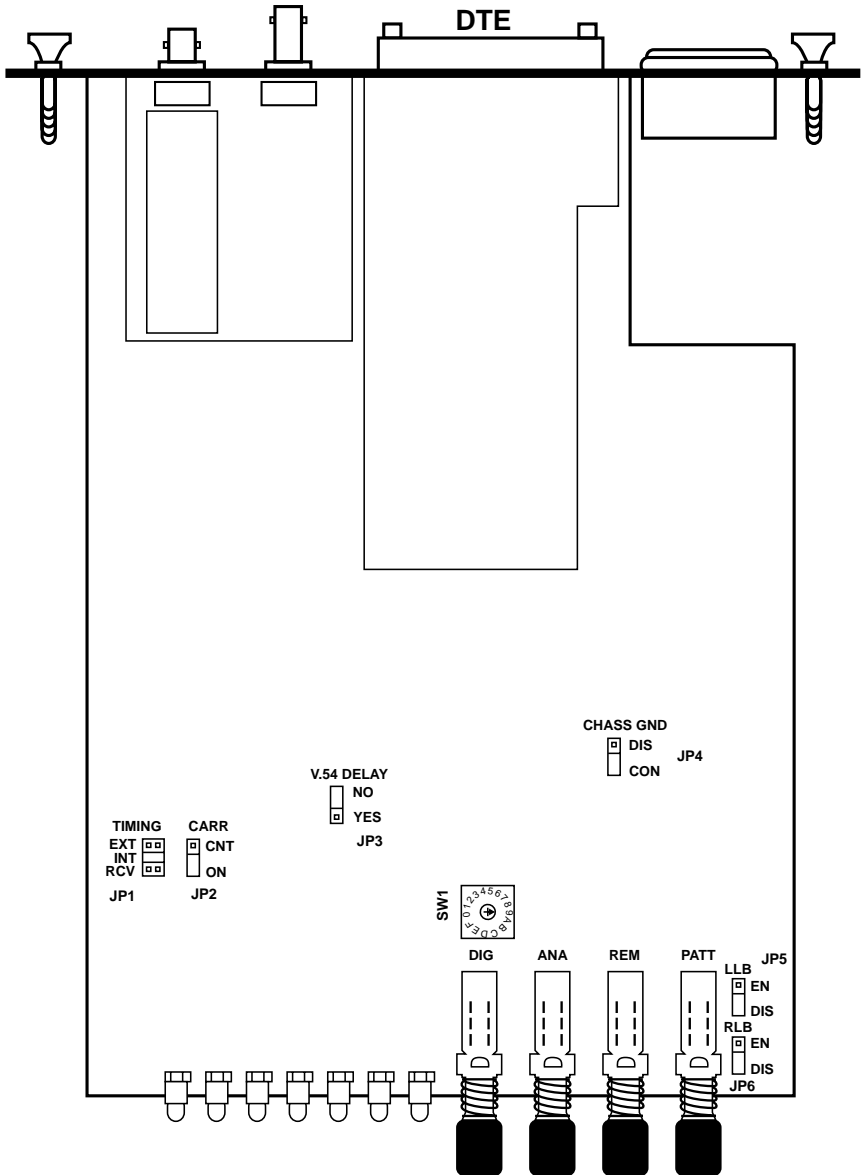

Figure 3-1. Circuit board of the Campus Fiber Driver.
(Refer to **Table 3-1** on the next page for a list of all of these options; the SW n and J n numbers in the table’s “Element” column correspond to the locations with the same numbers in **Figure 3-1** on **page 15**.)
3. Identify the control(s) (refer to **Figure 3-1** on **page 15**).